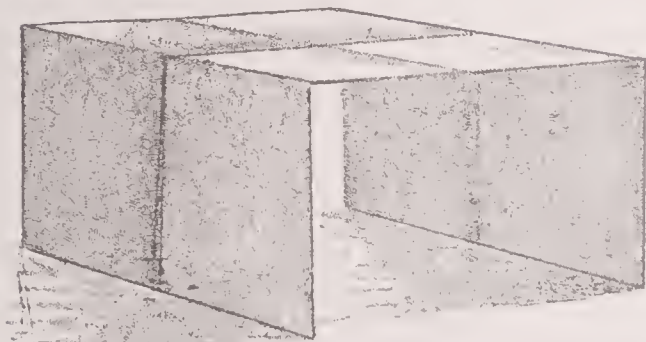

Fig. 4
4. Lay paper with blinds down on table and fold top and bottom of window to center line. This when made to stand up is the small square table. (Fig. 4.)